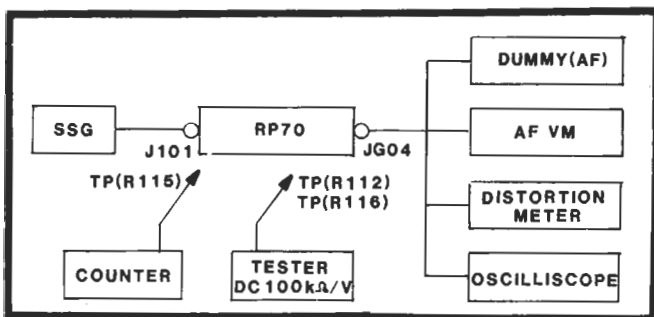

FIGURE 7. RX TEST SETUP
1. Connect the test equipment as shown in Figure 7.